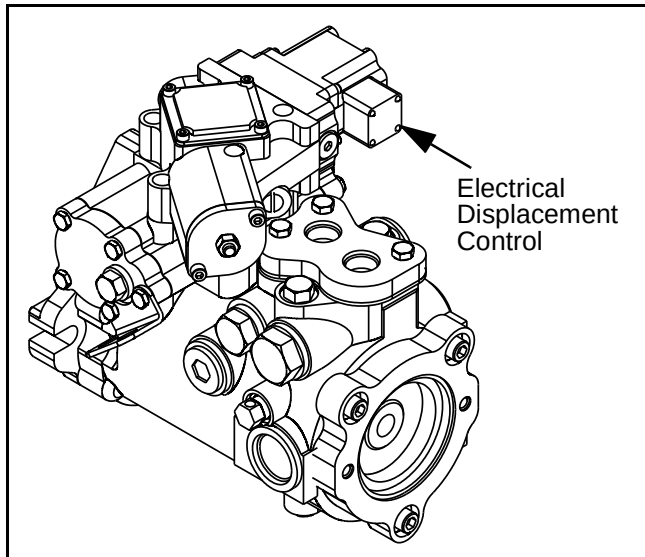

Figure 5 - 11 Electrical Displacement Control
- 7) Disconnect the Electrical Displacement Control at the pump controller. (Figure 5 - 11) Install a 300 psi gauge in the “F” (Figure 5 - 8) and “G” (Figure 5 - 9) servo ports.